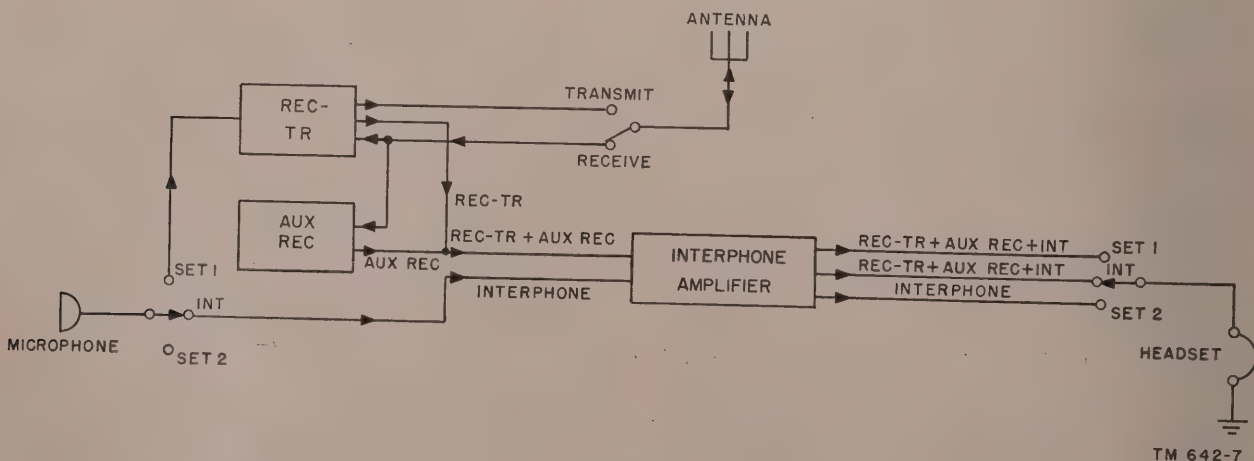

Figure 34. Basic system block diagram.
a. Basically each of the radio sets consists of a receiver-transmitter, an auxiliary receiver, and an interphone amplifier, with speech-input and monitoring facilities as shown in figure 34. The output of the auxiliary receiver is paralleled with the receiver output of the receiver-transmitter. These basic units are the essentials of the systems, and the power supplies, cables, mountings, and miscellaneous equipment are supplied to make the basic units perform their function of transmitting, receiving, or monitoring.